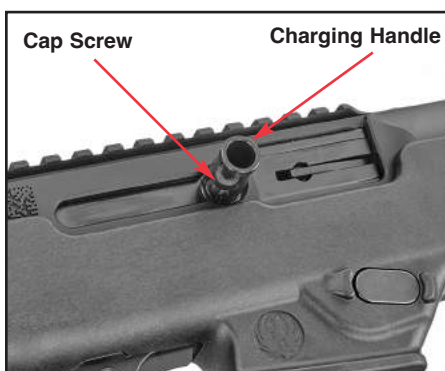

Figure 16.
2. A 5/32" hex wrench must then be used to loosen the cap screw within the charging handle (see Figure 16). Once loosened and removed, the charging handle assembly (comprised of the charging handle and cap screw) can be installed on the opposite side of the rifle.